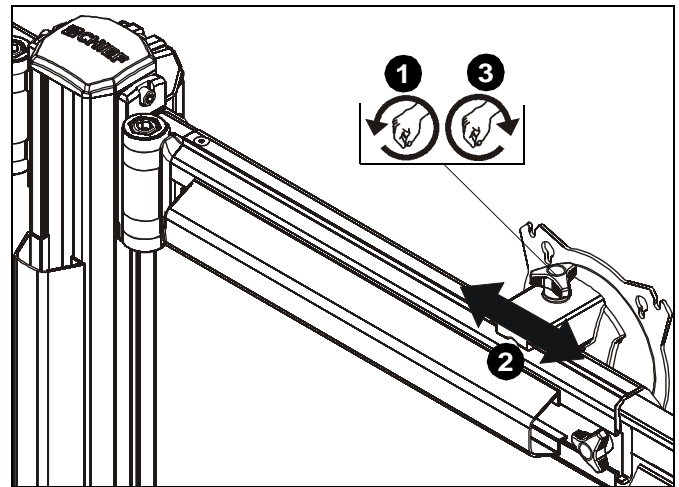

Figure 23
1. Loosen knob on top of outside faceplate assembly until faceplate can slide freely along array arm. (See Figure 23)
2. Adjust lateral position as desired. (See Figure 23)
3. Tighten knob to secure lateral position. (See Figure 23)